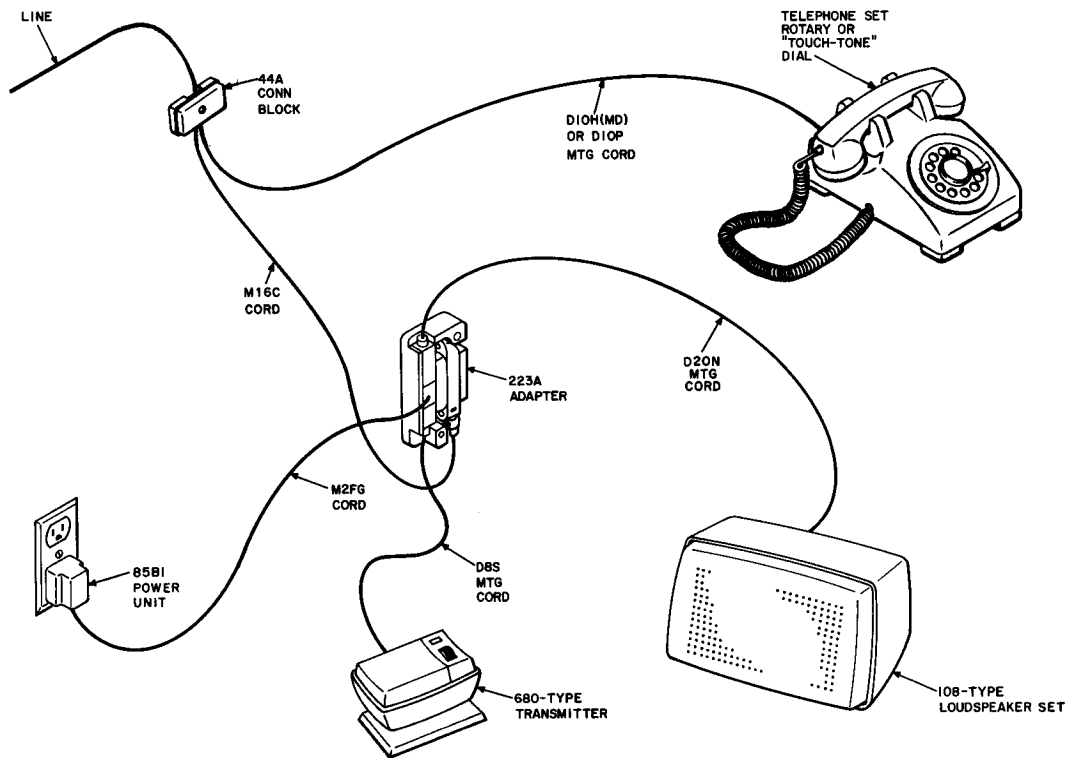
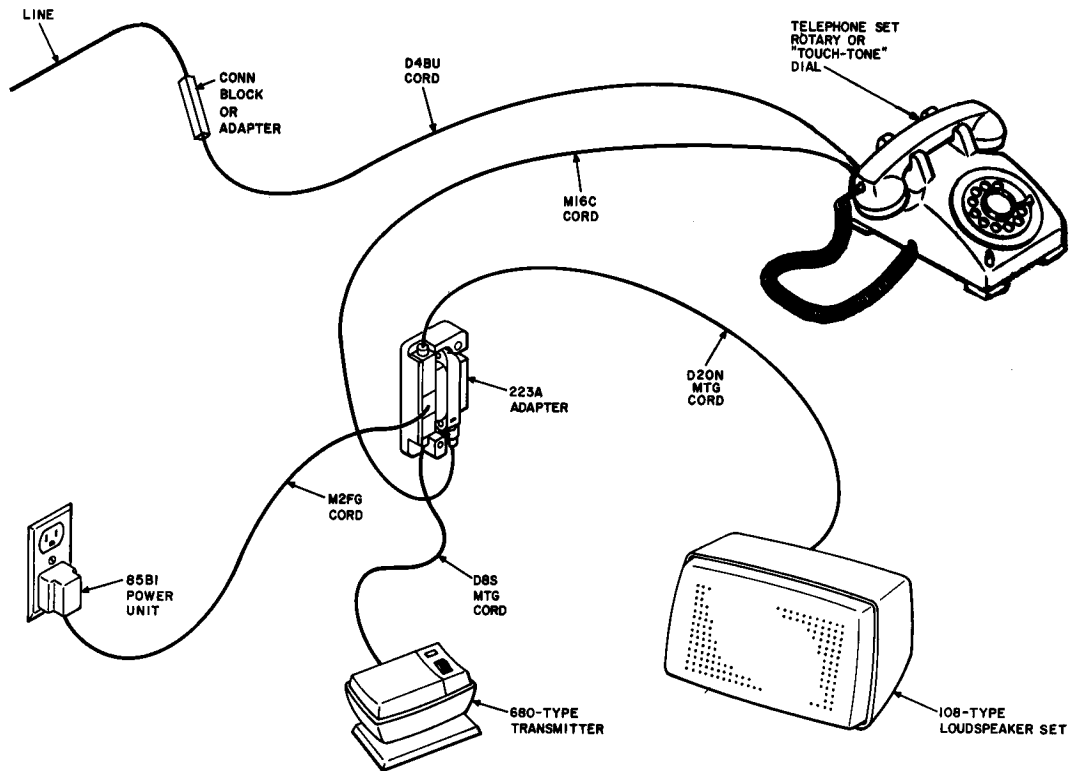

Fig. 1—Speakerphone Arrangement, 500S or 2500S Telephone Set
Fig. 2—Speakerphone Arrangement, 500SM or 2500SM Telephone Set
1.03 To provide 4A speakerphone feature at the 500- and 2500-type telephone sets, refer to Fig. 1 or 2 for layout arrangement of the components required for the system and Fig. 2 through 6 for individual lead connections.
2.04 Power can be supplied by connecting 85B1 power unit as shown in Fig. 1 through 6.